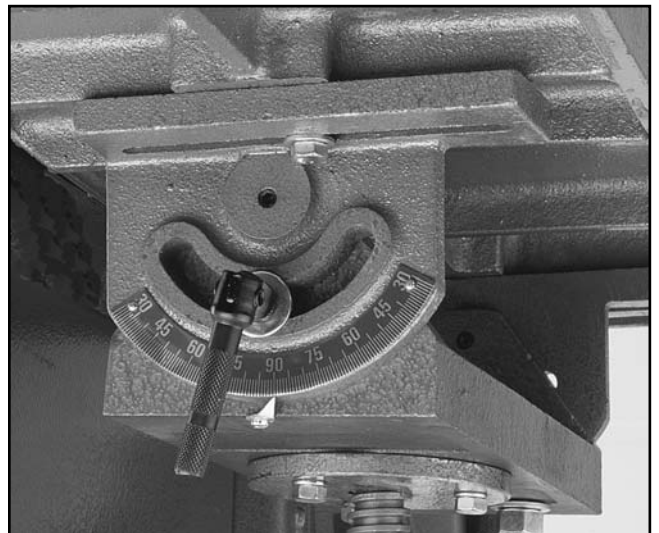

Figure 11. Setting the pointer to 90°.
11. Adjust the work table 90° to the sanding platen by checking it with a square. Adjust as necessary and tighten the table lock handles. At this point adjust the pointer to 90°. **Figure 11.**